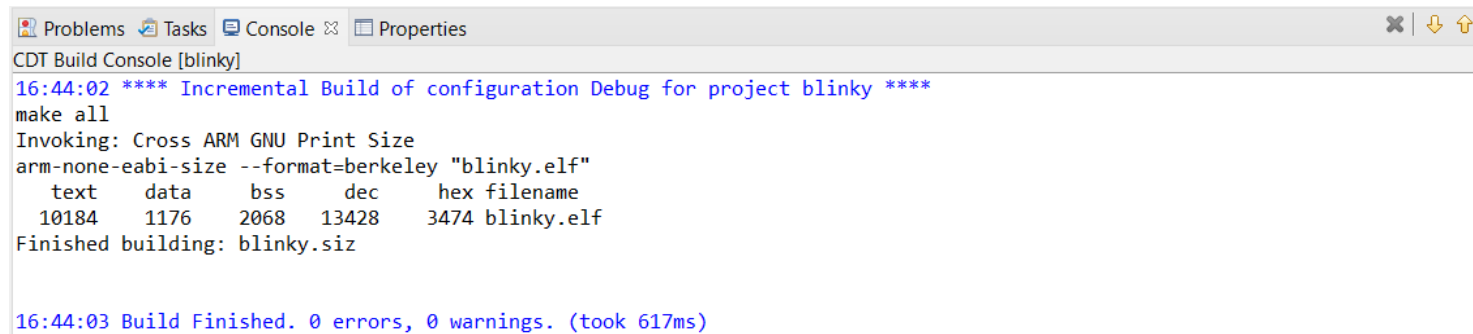

Figure 11. Example of Build Output
- When the build is running, the output of the build is shown in the onsemi IDE C/C++ Development Tooling (CDT) Build Console, as illustrated in the figure "Example of Build Output" (Figure 11).